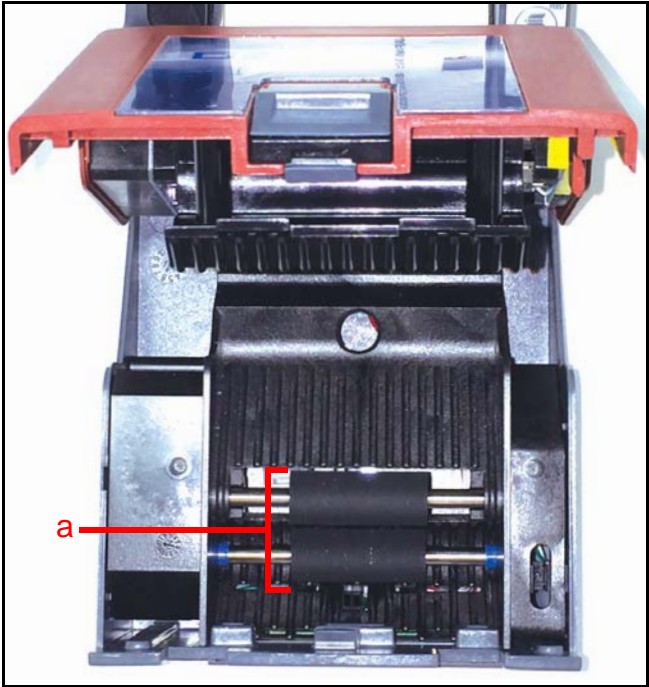

Figure 18 GEN2U Printer Presenter Rollers
12. Wipe and clean the Presenter Rollers (Figure 18 a) with a Cleaning Wipe.